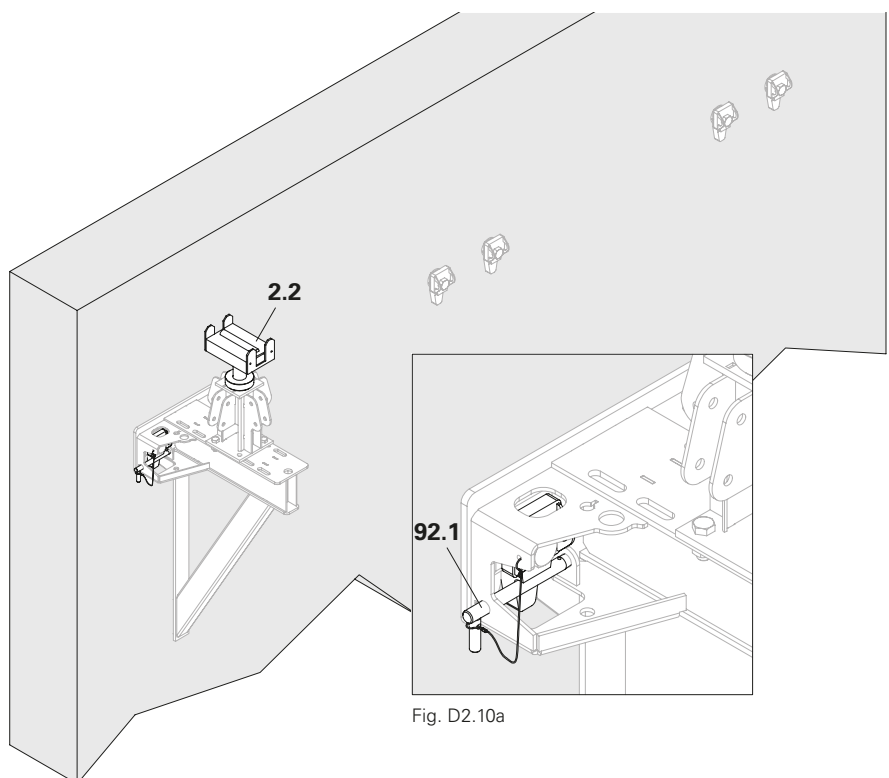

Fig. D2.10
3. Spindle out the spindle (**2.2**) to the required length (Fig. D2.10 + D2.10a)